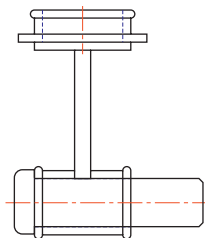

Fig. 10.17 The spindle in place in the original drawing
5. The spindle drawing appears on screen ready to be *dragged* into position. Place it in position as indicated in Fig. 10.17.